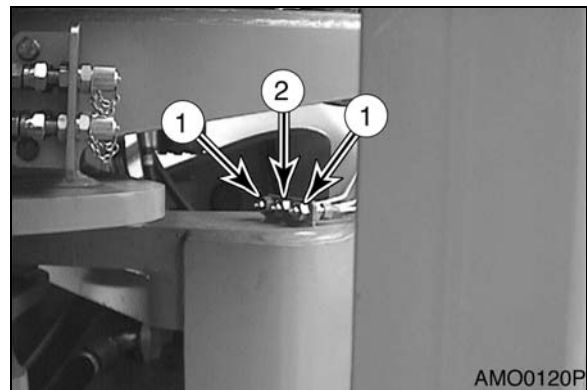
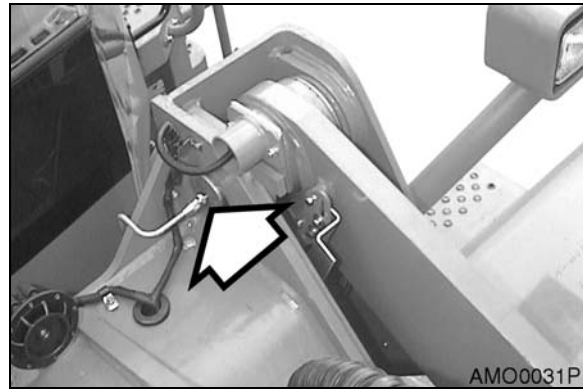
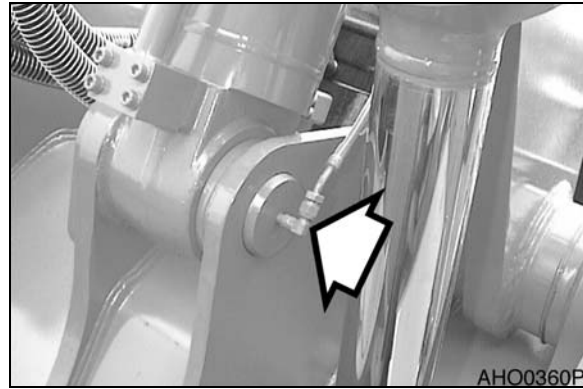

Figure 36
Figure 37
Figure 38
1. REMOTE FITTINGS FOR LOADER ARM FOOT ENDS (50 HOUR) (Figure 36 and Figure 37).
2. REMOTE FITTINGS FOR BUCKET CYLINDER HEAD (50 HOUR) (Figure 36 and Figure 38).